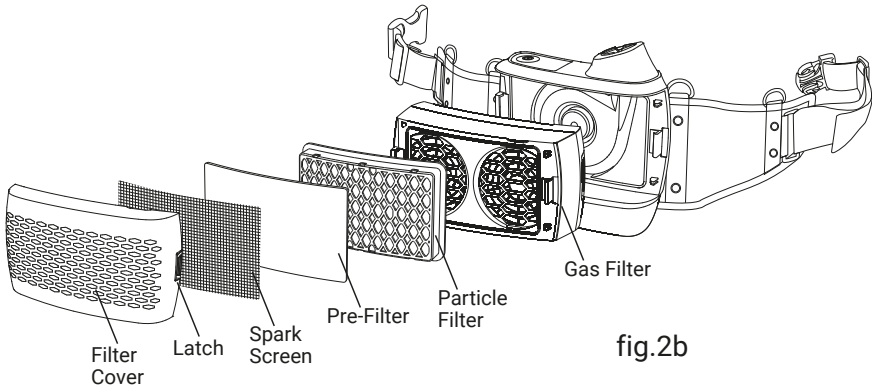

fig.2b
- Please install the particle filter and gas filter according to fig. 2b.